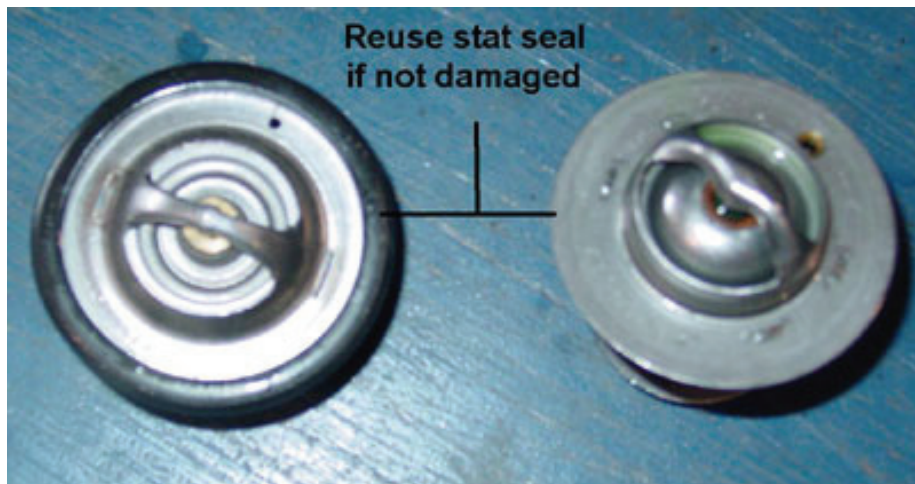

Fig. 5
5. **Inspect the seal on old thermostat. If it is not damaged it can be reused. (See Fig.5)**